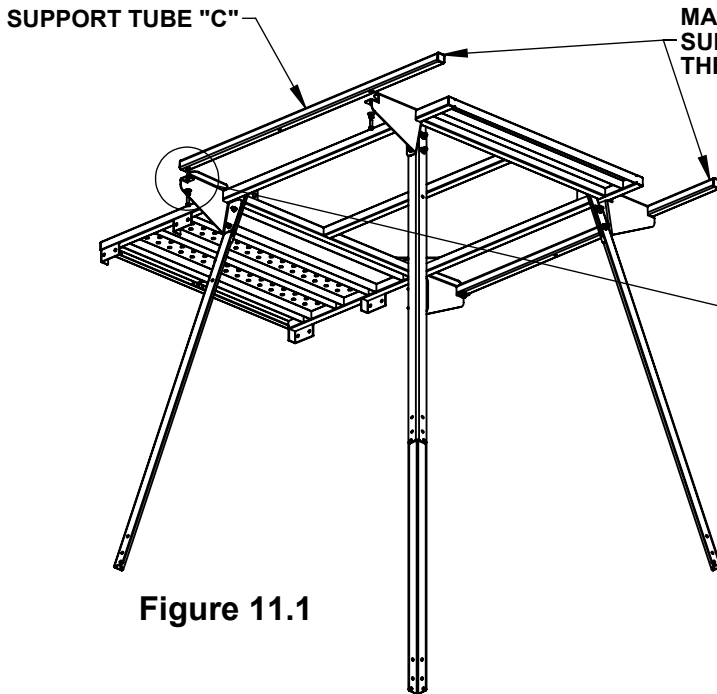
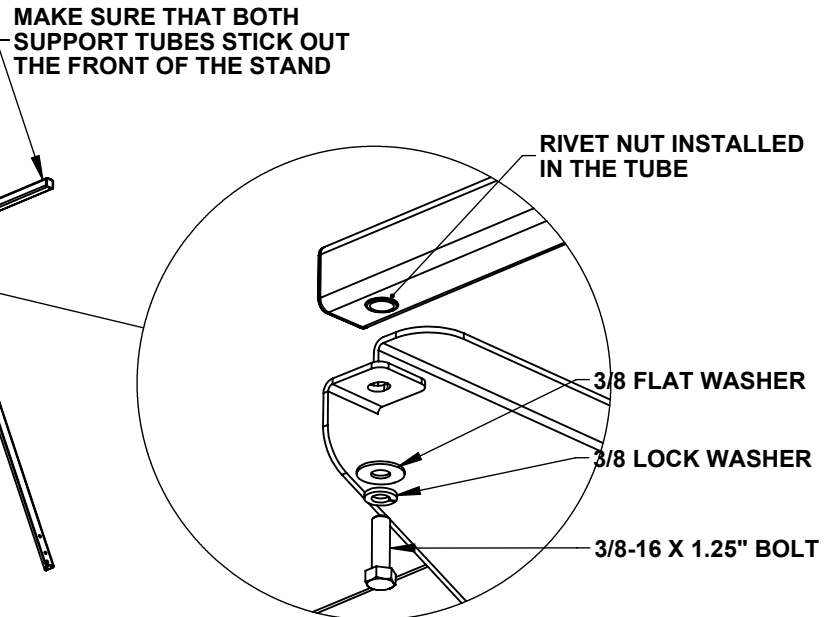

Figure 11.1
Figure 11.2
STEP 3: With all 4 Mounting brackets installed, take the Support Tube "C" and place it onto the mounting brackets as shown in figure 11.1. Make sure that the long end of the support tube sticks out past the front of the stand, see Figure 11.1. With the support tubes in place fasten them into place through the tabs in each bracket as shown in figure 11.2. Make sure to start the bolts with your fingers so you dont strip out the rivet nuts inside the tubes. Once you have them finger tight, fully tighten with a wrench.